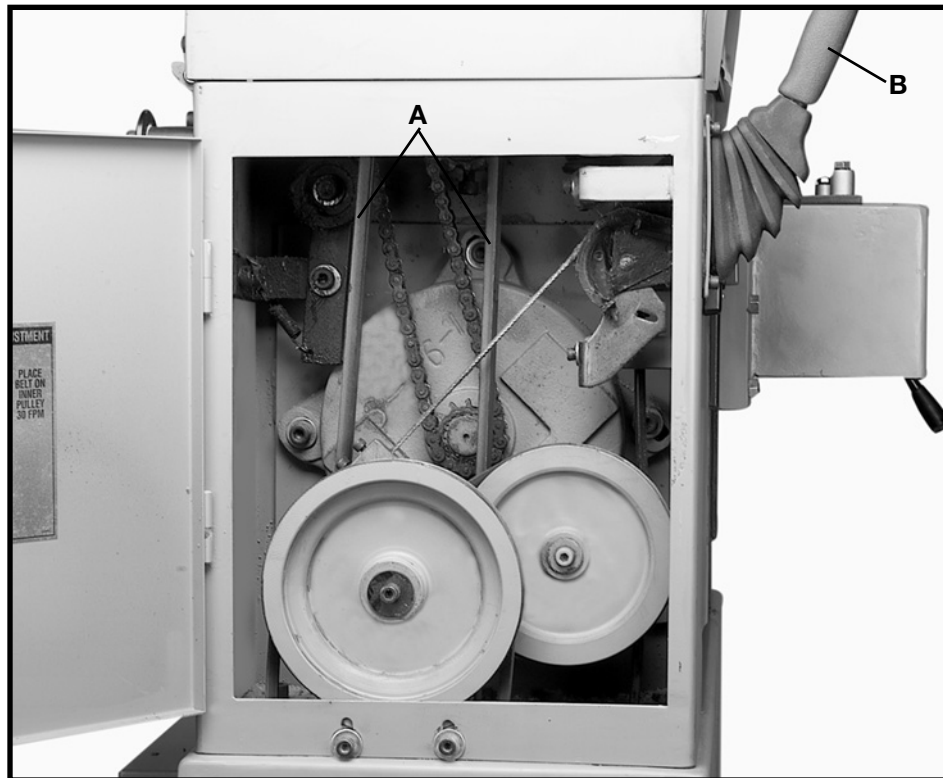

Fig. 28
Proper belt tension is when there is approximately 1/4" deflection, using light finger pressure on the drive belts (A) Fig. 28, midway between pulleys. If an adjustment is necessary, proceed as follows:
2. Disengage feed roller lever (B) Fig. 28.